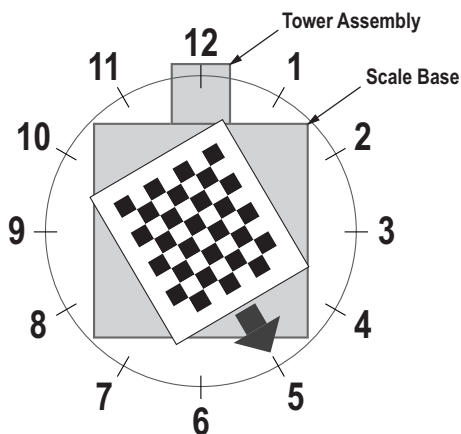

Figure 5-6. Rotate to 5 o'clock
7. Align calibration object so the cross hairs are centered. Rotate the calibration object to 5 o'clock with the tower assembly being at 12 o'clock (Figure 5-6).